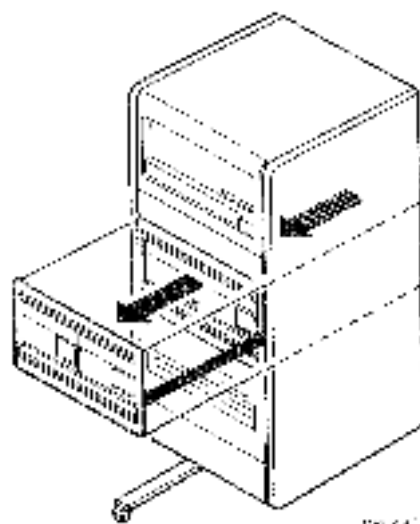

Figure 4-6 Extending the Chassis
4. At rear of drive chassis, remove both shipping brackets, one at each side of chassis slides (Figure 4-6) by removing a single screw securing each bracket to slide assembly.